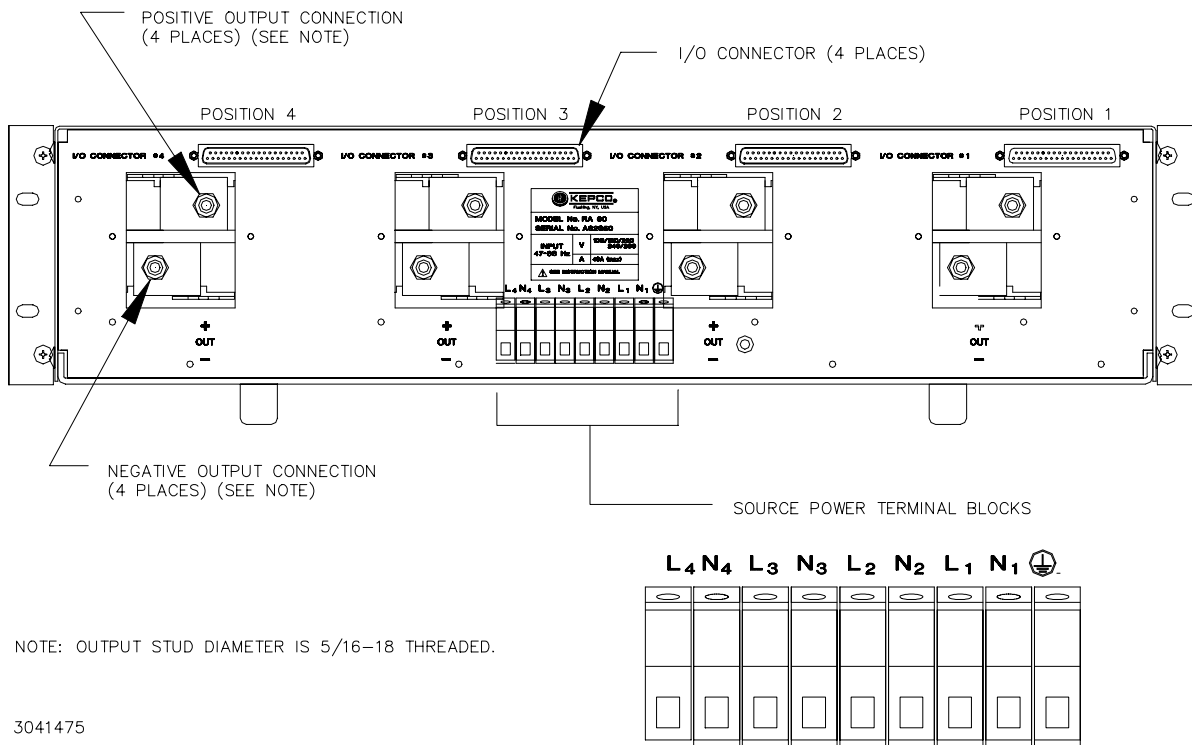

FIGURE 2-2. REAR PANEL CONNECTIONS
All input, output and control terminations are located on the rear panel of the rack adapter (see Figure 2-2). Other than module keying (Para.2.2), no adjustments or alignments are required.
The rear panel of the RA 59 rack adapter (Figure 2-2) includes nine terminal blocks to allow for individual connection of single-phase a-c and d-c input power to each position. These terminal blocks are labeled L1, N1, L2, N2, L3, N3, L4, N4, and G. Each terminal block will accommodate up to #6 AWG (16mm²) or equivalent conductor size. Their functions are as follows:
- **Terminal pairs L1/N1, L2/N2, L3/N3, L4/N4** are connected to the high-side and low-side contacts of the source power connectors for each of the three power supply mounting positions (1, 2, 3 and 4) of the rack adapter (see Figure 2-2). Each terminal pair (Lx/Nx) is isolated from the remaining two pairs, facilitating redundant source power connections if desired. The conductor used to connect terminals Lx and Nx to source power must be sized for the 16 ampere maximum source current drawn by HSP Series power supplies; Kepco recommends #14 AWG (2.5mm²) or equivalent minimum conductor size to support this current.
Access to the control signal (I/O) connector for each HSP power supply is provided via the four 37-pin D-subminiature connectors on the rear panel of the rack adapter (see Figure 2-2). Four mating connectors (Kepco PN 142-0422) are provided in a plastic bag. These connectors are simply extensions of the identical connectors located on the HSP power supplies. Consult the HSP operator's manual for instructions on wiring and use of these control lines.
Load connections to the rack adapter is achieved via the stud pairs located on the rear panel directly behind each mounting position (see Figure 2-2). Required hardware for attaching output cables are assembled to the output studs. The RA 59 rack adapter employs a modular bus bar system to permit a variety of load configurations; it is shipped with all four positions configured for independent operation. The following sections describe additional output bus bar configurations available with the RA 59 rack adapter. Additional information regarding these and other load interface requirements are contained in the HSP operators manual.